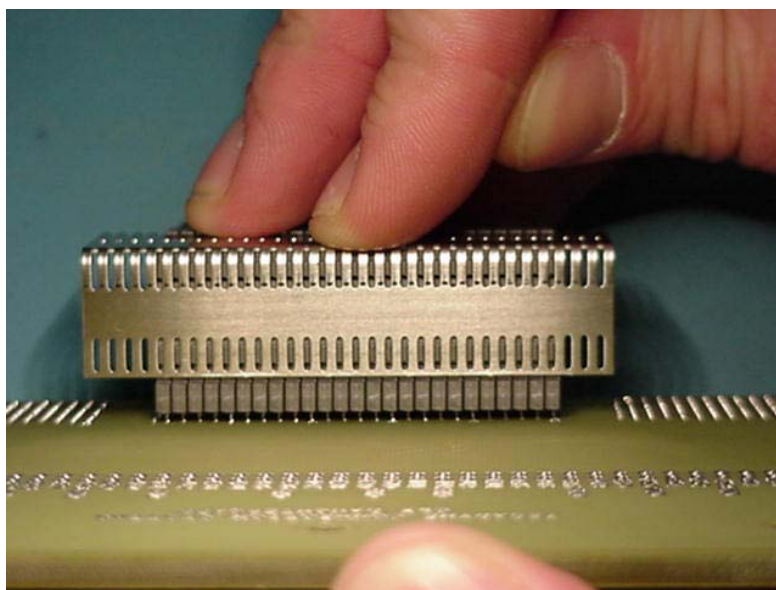

Figure 6. Rear view of the assembly. Check for bent pins.
Step 7. Check for any bent pins protruding from under the connector assembly (see Figure 6).